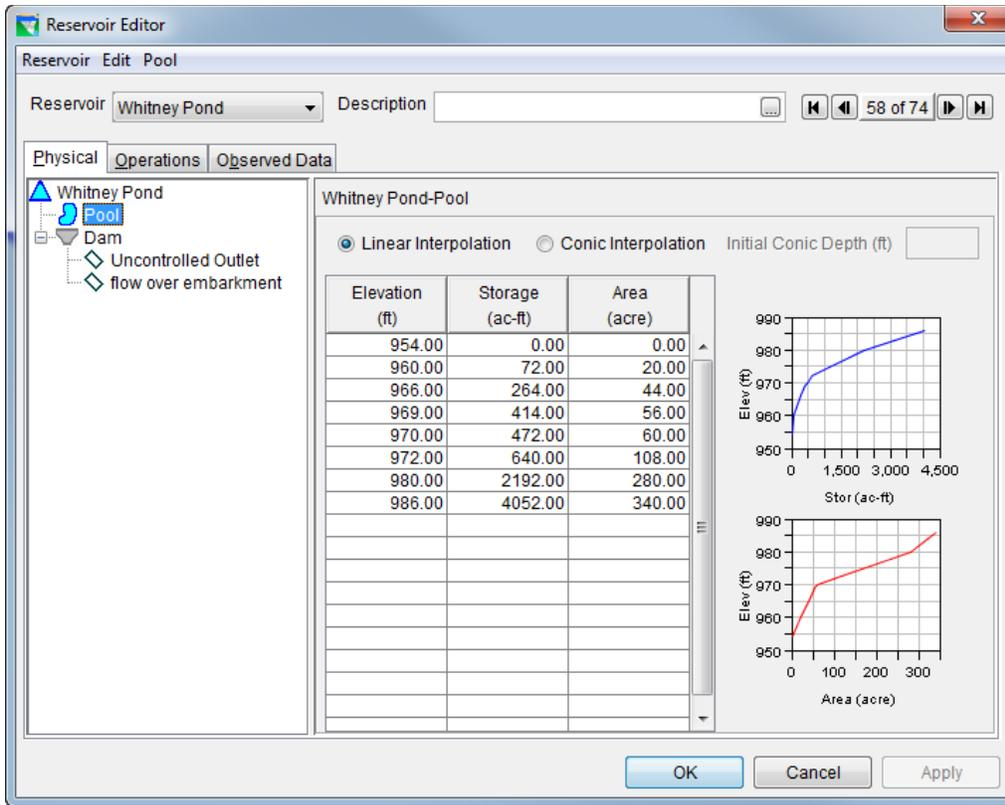
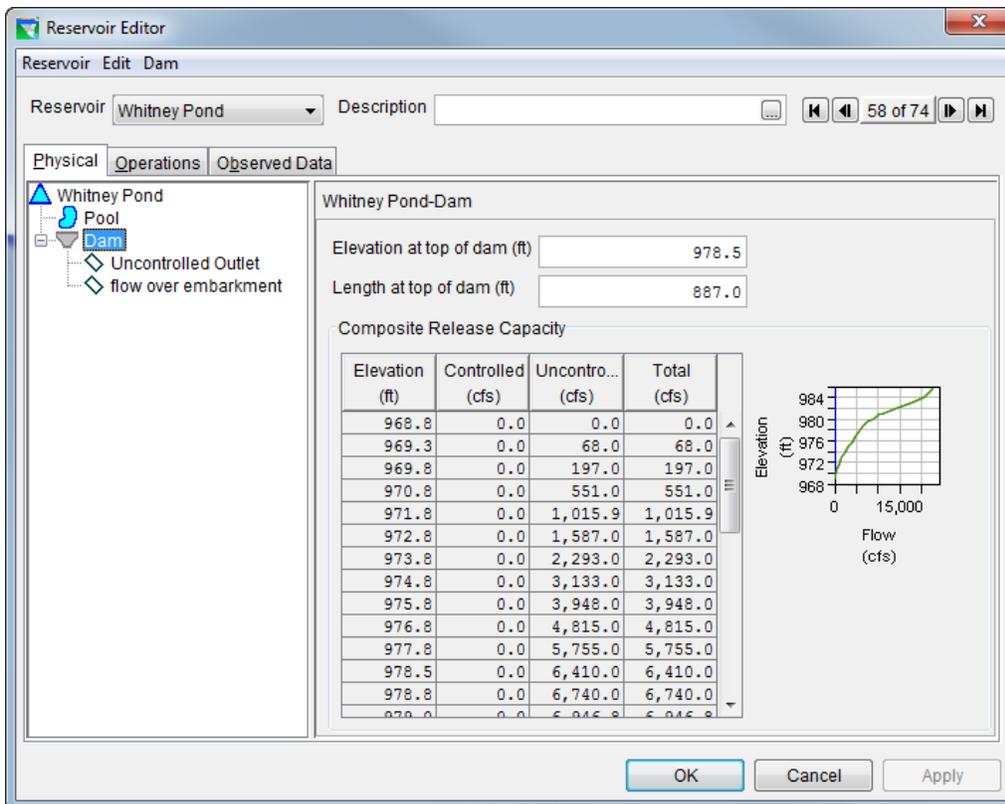

Figure 3: Reservoir Editor: Physical Tab -- Pool
Figure 4: Reservoir Editor: Physical Tab -- Dam
The physical characteristics of the reservoir are separated between the Pool and the Dam in the HEC-ResSim model. The elevation-storage-area defines the pool as shown in Figure 3111. The dam consists of two types of outlets: (1) an uncontrolled Outlet and an uncontrolled flow over embankment as shown in Figure 4.